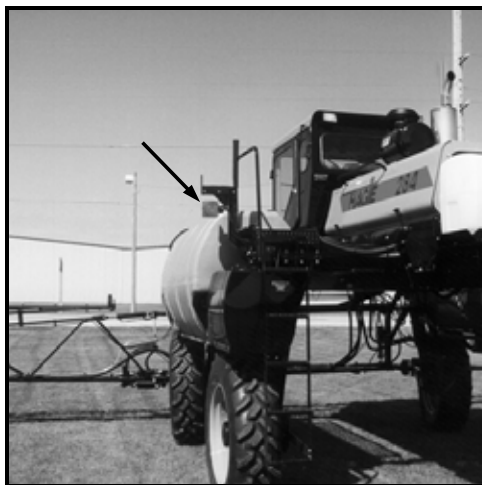
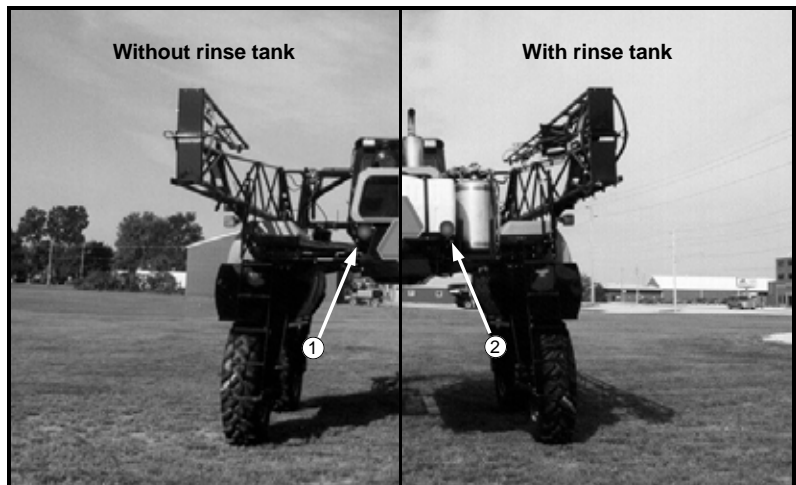

FIG 5.113
FIG 5.114
To activate the front (fig. 5.113) and rear turning signals (fig. 5.114, item 1 or item 2), move the turn signal lever (fig. 5.111) right during a right-hand turn and left during a left-hand turn. Steering column-mounted turn signal indicators will correspondingly flash when either side of the turn signal is activated. The turn signal lever is not a self-centering switch; you must return it to the "OFF" position by hand after completing your turn.
To activate the flashing hazard/warning lights (fig. 5.113), depress the "FLASHER" switch to the "ON" position (fig. 5.112). Activate the hazard/warning lights anytime traveling on a public road, day or night, unless prohibited by law.